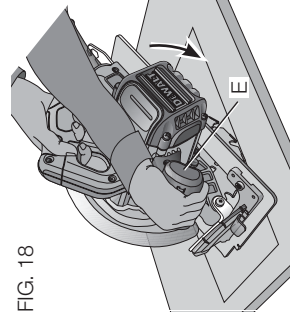

FIG. 18
POCKET CUTTING (FIG. 18)
4. Release the blade guard (its contact with the work will keep it in position to open freely as you start the cut). Remove hand from guard lever and firmly grip auxiliary handle (E), as shown in Figure 18. Position your body and arm to allow you to resist kickback if it occurs.